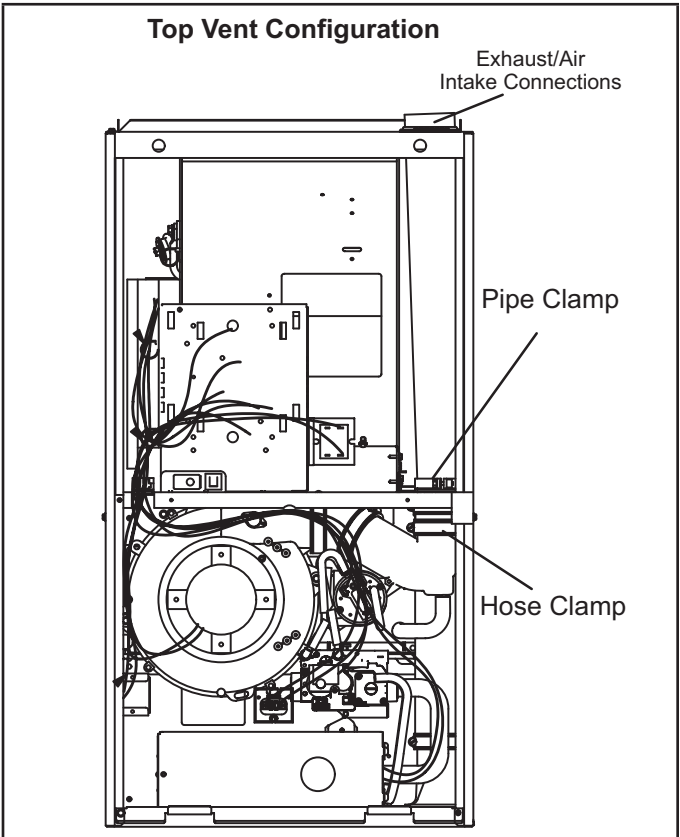
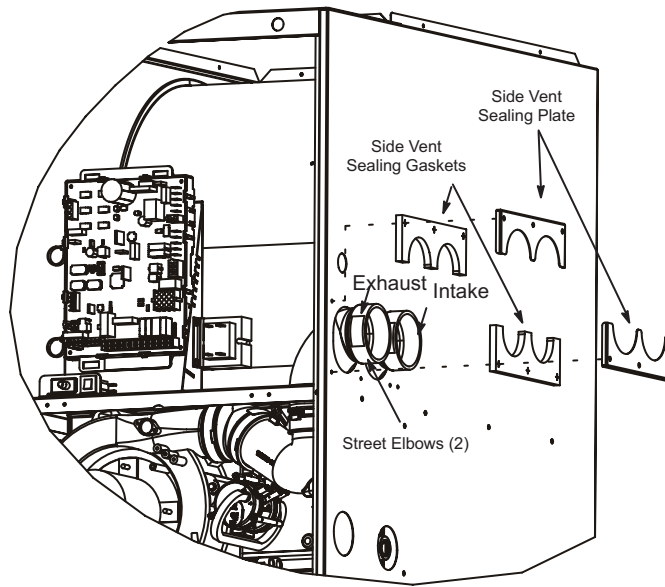

FIGURE 19
FIGURE 22
The EL296DFV is shipped with vent exhaust / air intake connection at the top cap. See FIGURE 19. Using parts provided, the furnace may be field modified to have these connections on the right side of the furnace cabinet. See FIGURE 22 and follow the steps below. For left side venting order kit 87W73.
- 2 - Loosen hose clamps which attach rubber fittings to the white PVC pipes inside the vestibule area. See FIGURE 19.
- 3 - Loosen the clamp which secures the pipes at the blower deck. See FIGURE 19.
- 11 - Peel protective backing from side vent sealing gaskets (2) and apply to side vent sealing plates (2) as shown in FIGURE 22.
- 12 -Install the side vent sealing plates and gaskets on the exterior of the cabinet as shown in FIGURE 22. Secure with six mounting screws (four reused and two provided from bag assembly). Holes are pre-punched in the parts and cabinet, no drilling is required.